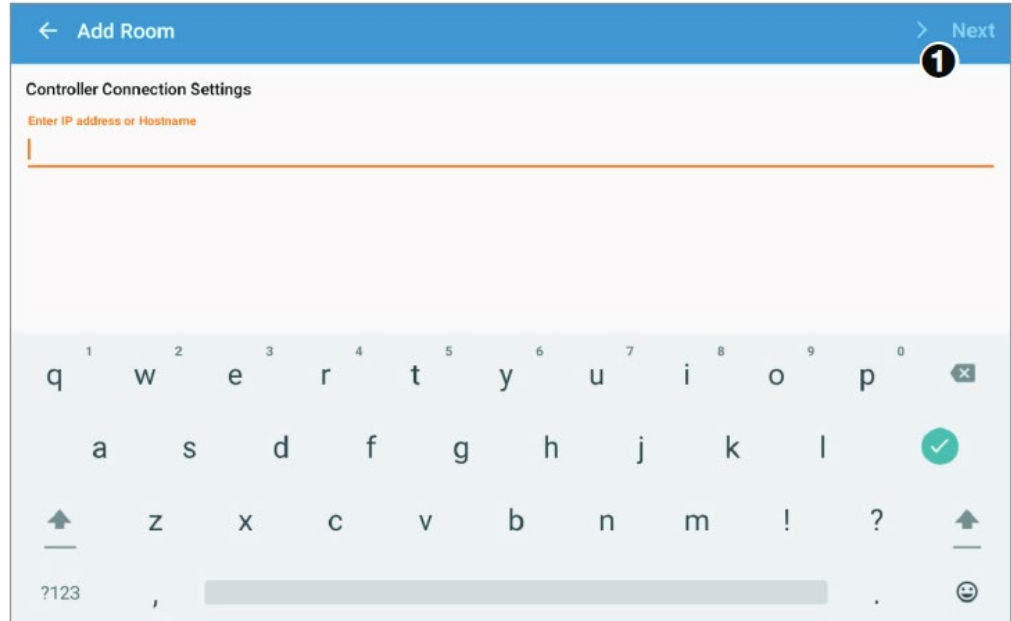

Figure 12. Entering IP or Hostname
3. Tap **Next** (see figure 12, ❶). The app verifies whether the system is online or not. If it is not online, an error message appears. Check the IP or Hostname and reenter it if necessary.